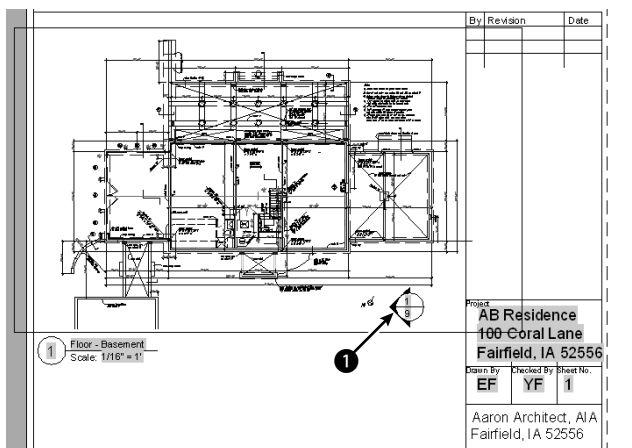

Figure 26-27: The basement floor plan.
5. Click the **Resource Drawings** tab again. Right-click **Floor - Basement** and choose **Place on Sheet**. Move the cursor onto the drawing area. (You may want to auto-hide the Sheet Set Manager at this point.) Right-click and choose `1/16"=1'`. Place the viewport all the way to the left of the layout. (The view doesn't fit perfectly, but that's okay for this exercise.) The result should look like Figure 26-27, except without the callout block. (If you want, continue to place the floor-plan views on the floor-plan sheets, matching the 1st and 2nd floor views to the 1st and 2nd floor sheets. You can also do the same for the four elevation views.)
8. To place a callout bubble on the basement floor plan that references the Exterior Section sheet, click the tab on the Windows taskbar for the basement floor plan to display that drawing. Click the View List tab. This tab now lists the views that you just placed. Right-click the Section 2 view (the one that you're pointing to) and choose Place Callout Blocks ⇨ callout bubble-left arrow. At the prompt, pick ❶ in Figure 26-27. The fields in the callout block show the correct view and sheet numbers.